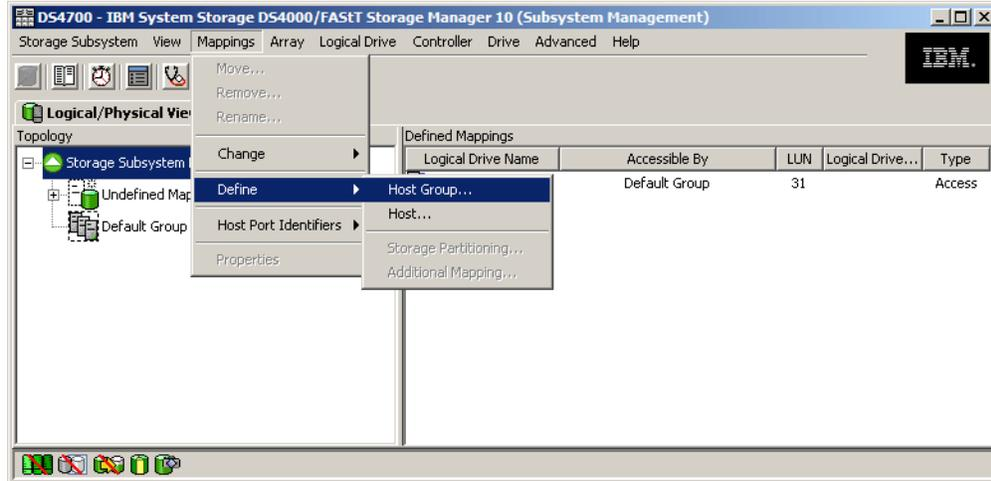

Figure 10-52 Define Host Group
6. After creating the logical drive, we must define and create the host group, host, and host port definition for the server. In the Storage Manager Subsystem Management window, move to the Mapping View tab and click **Mappings** → **Define** → **Host Group**, as shown in Figure 10-52.